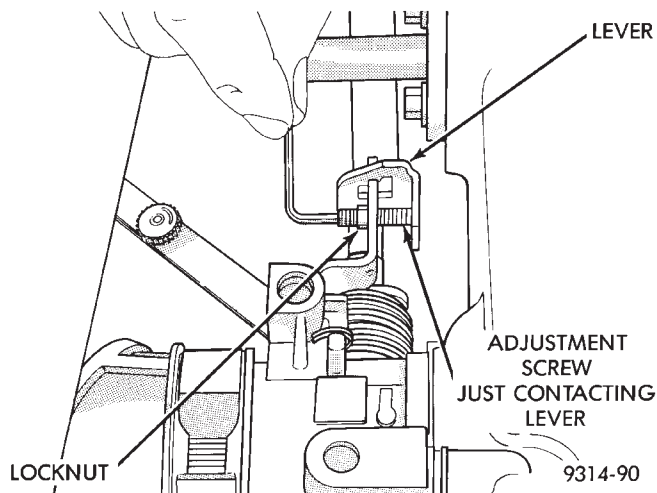

Fig. 64 Adjustment Screw
- (2) Loosen the adjustment screw locknut on the synchronization shaft (Fig. 64).